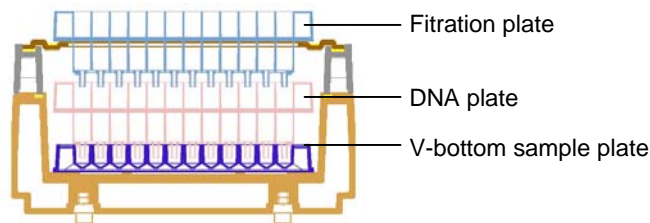

Figure1: Filtration and binding set
6. Connect the vacuum manifold to the vacuum source. Remove the manifold top and place a 96-well V-bottom sample plate and an AxyPrep DNA plate into the manifold base. Replace the manifold top and place an AxyPrep Filtration plate onto the manifold top. Be sure that filtration plate drip directors are aligned with the wells of the DNA plate underneath (Please refer to Figure 1).